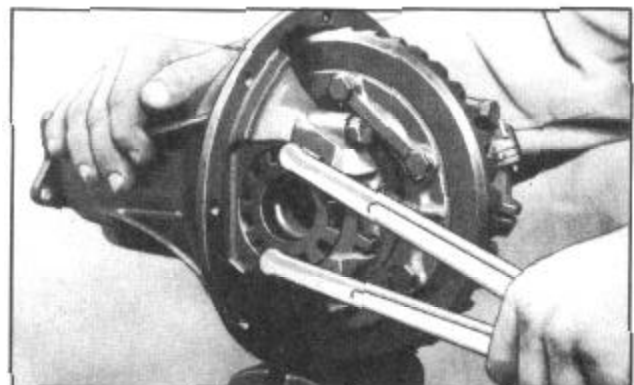

Figure 16--Adjusting Differential Bearings
19. Turn the right hand adjusting nut to right (clockwise) and draw it up tight using Differential Bearing adjusting nut wrench J 972, as shown in Figure 16.